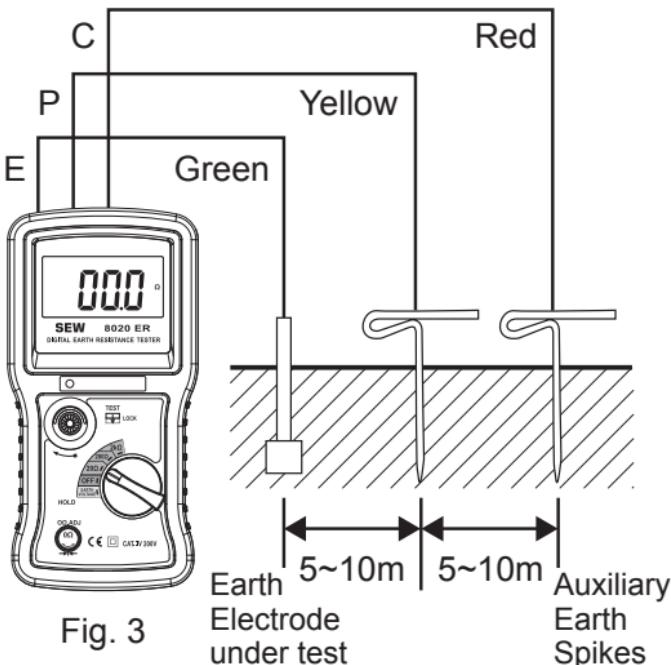
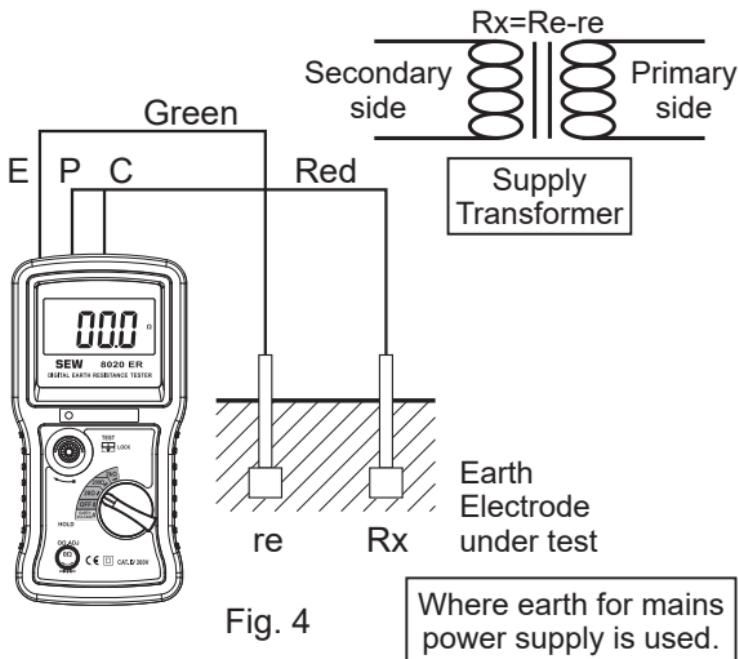

Fig. 3
Fig. 4
- f. Connect green, yellow and red test leads to instrument terminals E, P and C with auxiliary earth spikes P1, C1 stuck into earth "IN A STRAIGHT LINE". (Fig. 3)
**\*Follow the proper connection such as Fig. 3, the LED(red) indicator will lit. This proves a correct current circulation is under its operation.**
- (3) Simplified earth resistance measurement method
- a. This method is recommended where an earth resistance higher than  $10\Omega$  is measured or where it is not possible to drive auxiliary earth spikes. An approximate value of earth resistance can be obtained by the two wire system where is shown in Fig. 4.